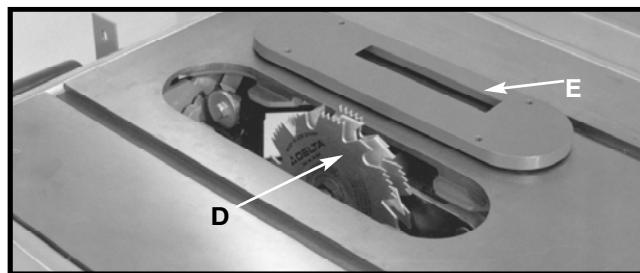

Fig. 55
2. Attach the dado head set (D) Fig. 55, to the saw arbor.
**CAUTION** THE ACCESSORY DADO HEAD SET TABLE INSERT (E) FIG. 55, MUST BE USED IN PLACE OF THE STANDARD TABLE INSERT.